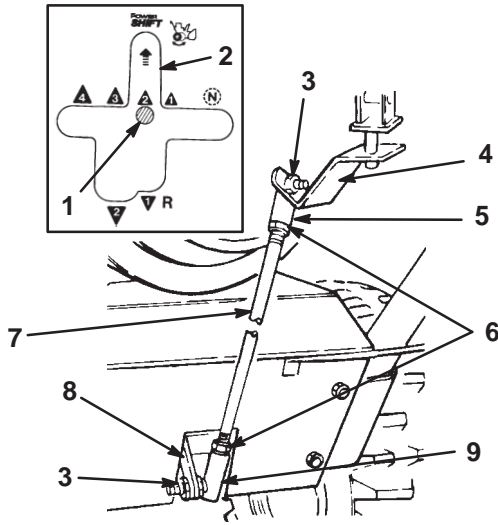

Figure 6
1. Insert the upper ball joint stud through the front of the shift bracket and secure it with a locknut (Fig. 6).
2. Insert the lower ball joint stud through the right side of the transmission lever and secure it with a locknut (Fig. 6).
3. Shift the snowthrower into second gear and check the shift rod alignment with the Power Shift slot (see inset in Fig. 6).
- A. Disconnect the ball joint from the transmission lever and loosen the jam nut (Fig. 6).
- B. Rotate the ball joint up or down until the gear shift lever aligns with the Power Shift slot (Fig. 6).
- C. Install the ball joint to the transmission lever and tighten the jam nut (Fig. 6).